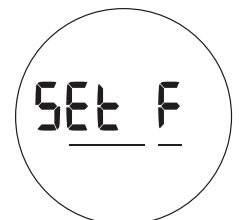

Fig. 35 - SET F GROUP
- > A + S (2 sec), while viewing NORM SURF Main, will access Set F (Fig. 35).